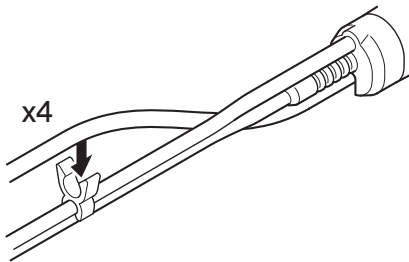

Figure 94 – Handpiece Cable Clips Installation
3. Using the four handpiece cable clips, attach the handpiece cable to the tubing (Figure 94).